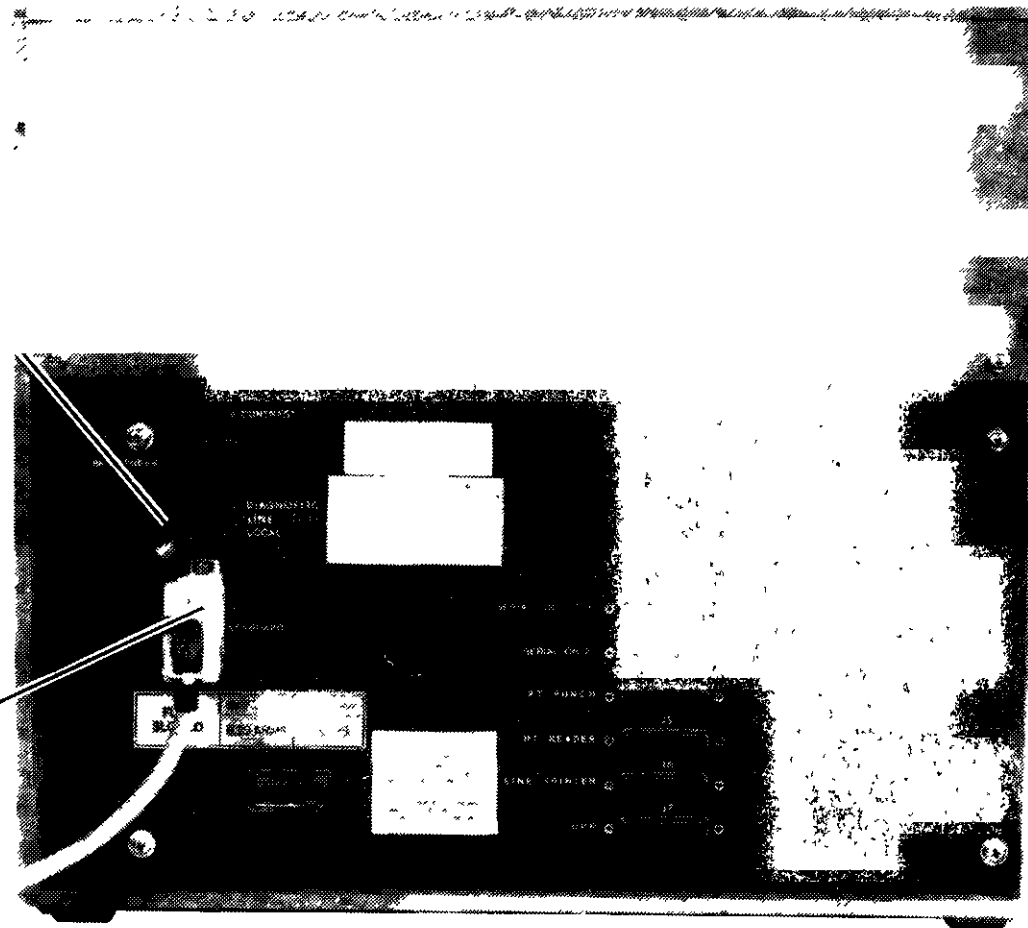

Figure 2-5. Rear Panel Keyboard Connection
6. Insert free end of keyboard cable into KEYBOARD connector J1 on rear chassis panel. *Do not route keyboard cable underneath chassis.* Fasten keyboard cable ground wire to screw next to connector J1. (See figure 2-5.)